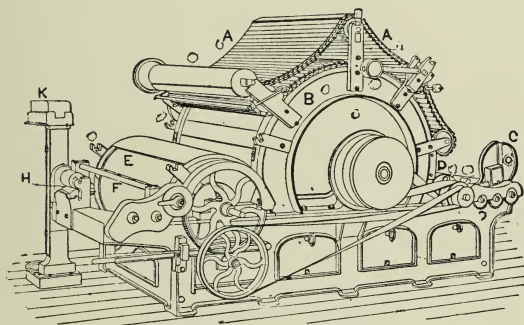

FIG. 76.—Diagram of a Carding-machine.
The *carding-machine* does two things—(1) it gives the cotton a further cleansing; (2) it begins to straighten out the fibres. Fig. 76 is an illustration of a flat carding-machine. The roll of finished